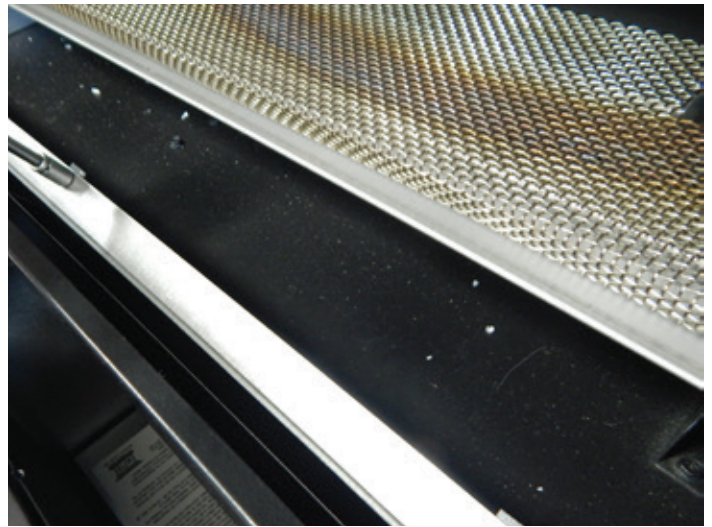

Figure 6
9. Before you install the Light kit, remove the (2) # 10 x 1/2-inch screws that retain the front angle support bracket shown in Figure 6. The Front Angle Support will not be re-installed. The two removed screws will be used in step 12.